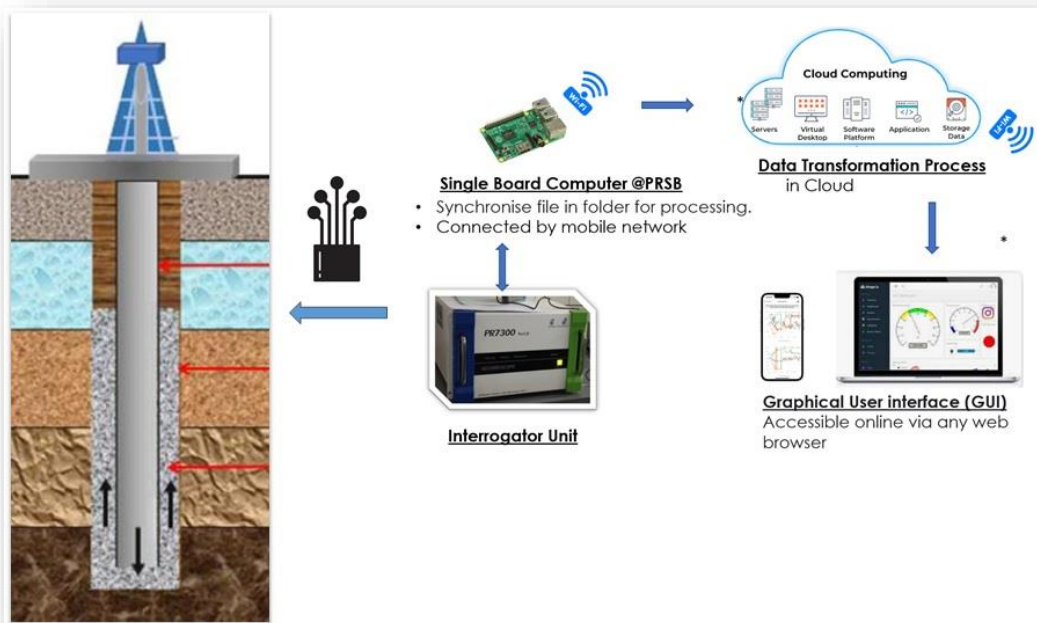

Figure 1.0: Schematic diagram of DFOS system.
This manual is designed to provide the user with a comprehensive guide to the **Intelligent DFOS Characterisation System**, a system that is designed to characterise newly developed DFOSs. The artificial intelligence (AI) system will be able to generate user-friendly interpretations from the raw measurement data collected from the interrogator unit. Ultimately, the setup of the system will be as shown in Figure 1.0 where the system will also be trained to perform synchronization of the optical switch for simultaneous measurement of multiple sensing fiber optic cables.